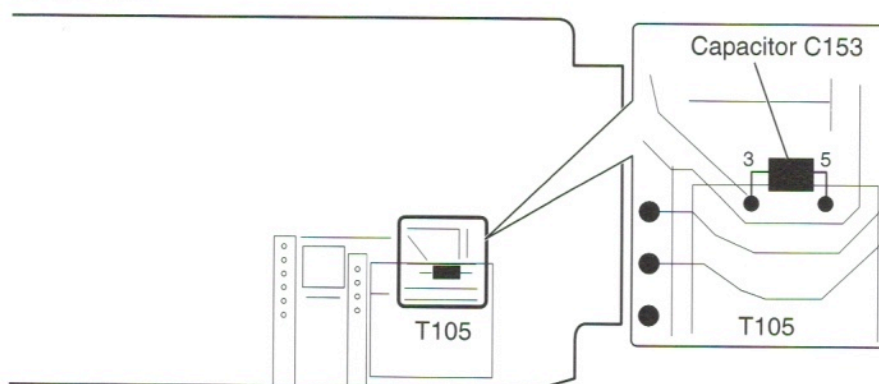

Figure 63. Differentiate Rev A and Rev B Main Boards
1. To differentiate a Rev A main board from a Rev B main board, check the board for capacitor C153 (see Figure 63). The capacitor is mounted on either the component or the solder side of Rev B boards. Rev A boards have no capacitor C153.